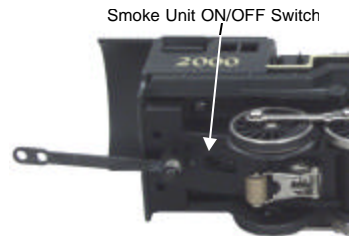

Figure 6. Smoke Unit ON/OFF Switch
- If you choose not to prime the unit with fluid, turn the smoke unit switch located under the engine to the OFF position (Fig. 6). Running the engine without a primed smoke unit may cause damage. See the “ProtoSmoke Unit Operation” section of this book for more information on smoke unit maintenance.
- If you choose not to add the fluid (or have already added the fluid but choose to run smoke-free), turn off the smoke unit switch located under the engine body (see Fig. 6). Failure either to add fluid to the unit or to turn it off may damage the smoke unit heating element and/or wicking material.